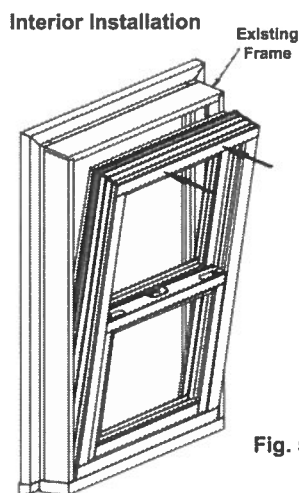

Fig. 5
3. **Interior Installation:** Center unit in opening and press it firmly against exterior stops. See Figure 5.